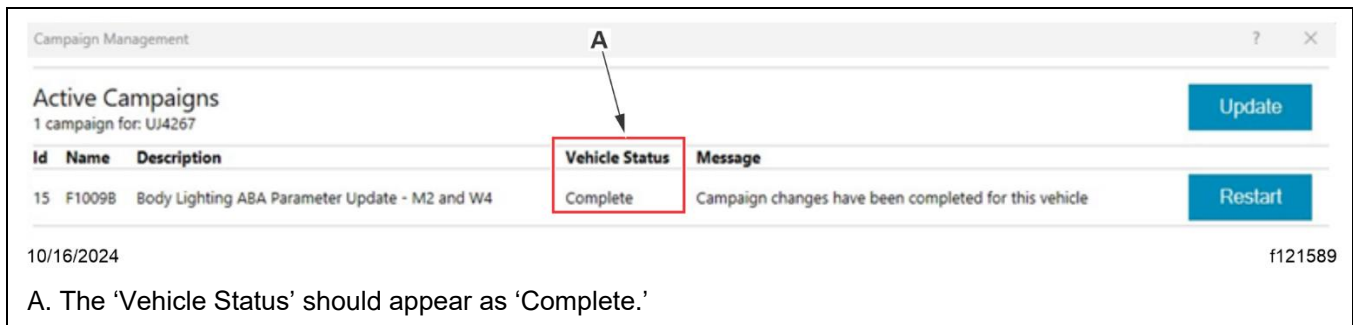

Fig. 11, Verifying the Campaign Completion
13. Verify the completion of the recall in the 'Campaign Management' window. See Fig. 11.